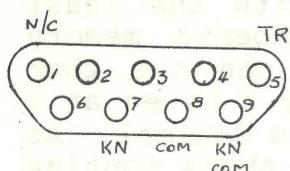
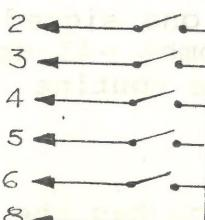

FIG. 1
FIG. 2
a. RS232 connector. Fig 1 shows the identity of the nine pins of the connector. No connection to pin 1. The pins are marked on most plugs. The controller switches and knob are connected as shown in Figures 2 & 3.